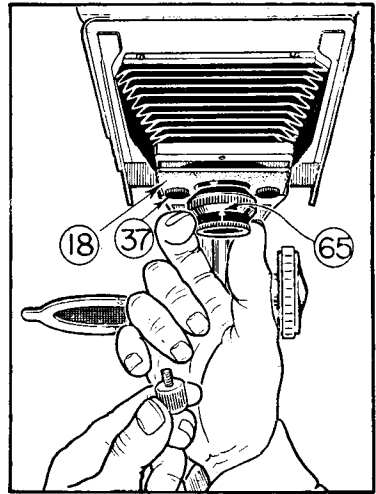

Figure 8
into the back two threaded holes in the bottom of the focusing mount; then place the lens board, with the lens attached, into the square cavity in the bottom of the focusing mount, so that the heads of the thumb screws extend over the back edge of the lens board. Be sure that the engraved indicating line (65) on the lens barrel faces toward the front, so that you can read the markings on the calibrated ring of the iris diaphragm. Then turn the front thumb screw (19) with the thick head, into the threaded hole in the center of the front edge of the focusing mount. Tighten all three thumb screws so that the lens board is firmly held in place. See Figures 8 and 1A.